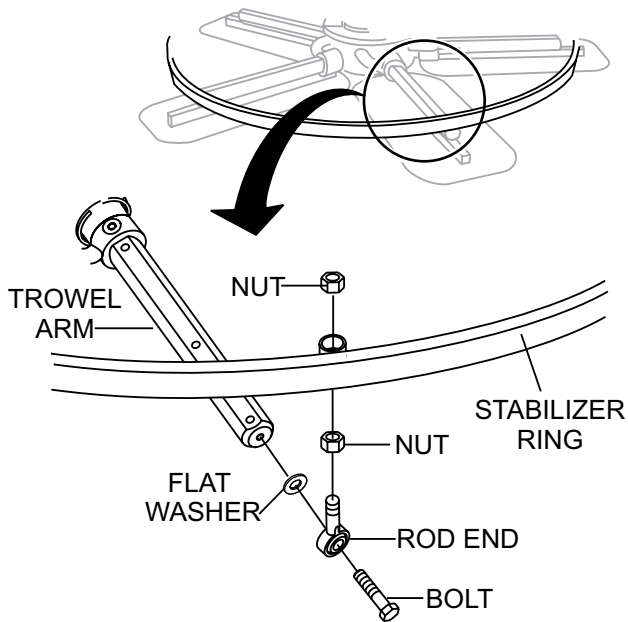

Figure 37. Trowel Arm Removal (Stabilizer Ring)
1. Remove the hardware securing the stabilizer ring to the trowel arm (Figure 37).